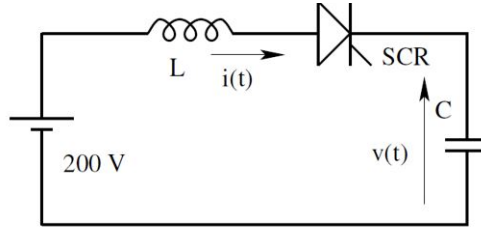

Fig. 3: A series LC circuit with a switch.
3. Fig. 3 shows a series LC circuit with a semi-controlled switch. The initial current in the inductor and the voltage across the capacitor are zero and the SCR is off. At time  $t = 0^+$ , the SCR is turned on. Consider the switch to be ideal. The inductance  $L$  is  $20 \mu\text{H}$ ; the capacitance is  $20 \mu\text{F}$ .